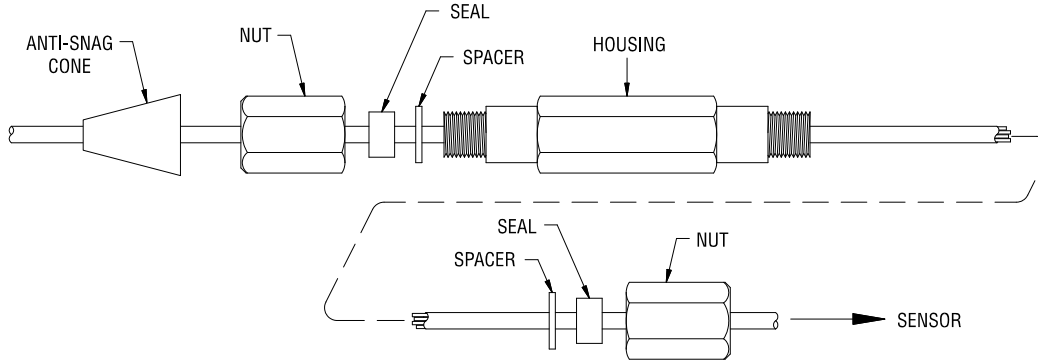

FIGURE 1
Step 2 Using the KPSI Transducer cable splice kit, remove the nuts, seals, spacers and anti-slag nose cap from the package. On the cable end away from the transducer, install the anti-slag nose cap, a nut, seal, spacer and the housing, such that the cable goes all the way through the housing and out the other end by about 12 inches. On the other end, install the other nut, seal and spacer. **See Figure 1.**